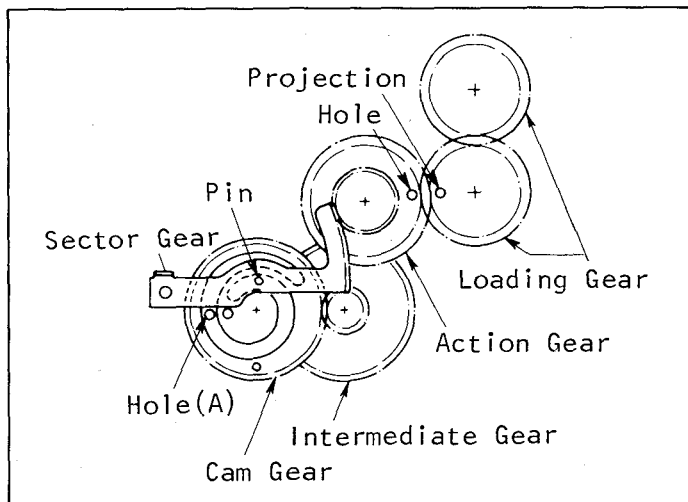

Fig. M57 Adjustment of Cam Gear and Mode Select Switch - (5)
5. As described before the two V-shaped marks on the mode select switch should be aligned. As this time the mechanical portion should look like Fig. M57.